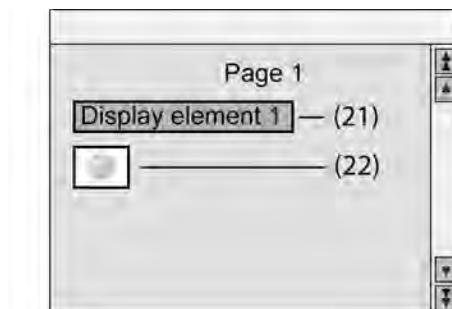

Figure 12: Types of display elements
- i** In addition to an element icon (figure 12), a status icon can also be assigned to the display status values of the element (see following section "Display function"). It should be noted that, depending on the planned icon position, the element icons and status icons may overlap. In so doing, a status icon overwrites an element icon. A status icon also overwrites the display text of an element.